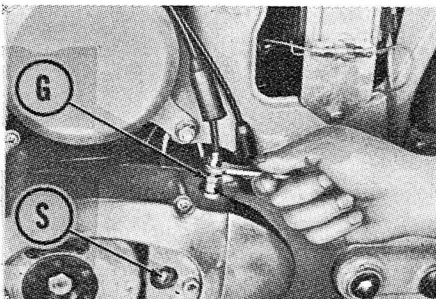
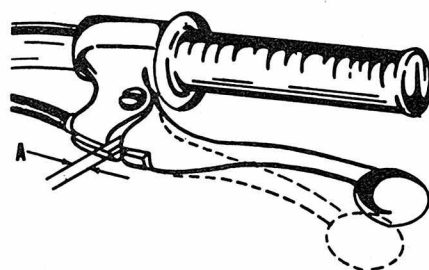

Fig. S2-8—The clutch is adjusted at screw (S) and cable guide (G). Refer to text for procedure.
Fig. S2-9—The clutch hand lever should have 0.12 inch free play at (A).
**CLUTCH CONTROLS.** To adjust the clutch, remove the plate from the engine left side cover. Loosen the lock nut and turn adjusting screw (S—Fig. S2-8) IN until slight resistance is felt then back screw out ½-turn and tighten lock nut. Adjust the cable guide (G) until the clutch hand lever has 0.12 inch free play at A—Fig. S2-9.